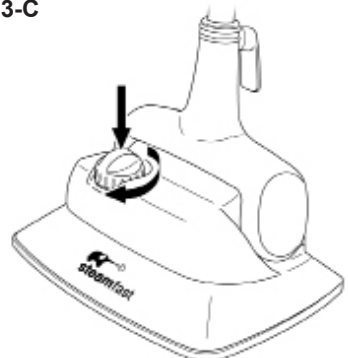

FIGURE 3
2. Carefully remove Boiler Cap by unscrewing it in a counter-clockwise direction (FIGURE 3-A).
4. Fill included Measuring Cup with 8.5 oz. (250 ml.) water, and pour into Boiler through Boiler Fill Hole (FIGURE 3-B).
6. Replace Boiler Cap by screwing it into Boiler Fill Hole in a clockwise direction until tight (FIGURE 3-C). Unit is now ready to begin steaming – refer to Page 9 for operating instructions.